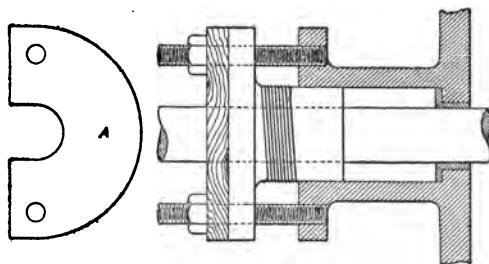
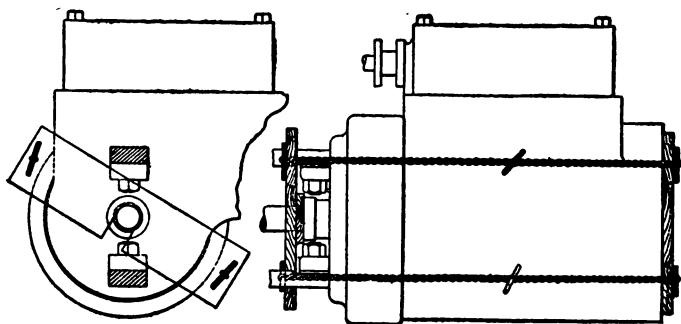

FIG. 8.—REPAIRS TO A BROKEN PACKING BOX GLAND.
FIG. 9.—CLOSING STUFFING BOX WHEN THE GLAND IS
A. If the gland breaks in two so that it is parted through the body, it is usually possible to repair it by wrapping the part outside the stuffing box with wire and then using a piece of board to push it into position with a steady pressure as shown in Fig. 8. In case a lug only is broken off, the
In case both studs are broken and the gland fractured beyond the possibility of repairing, the stuffing box can still be kept tight. Cut a piece of board like that shown at *A* in Fig. 8, and after packing the stuffing box full of waste or packing, hold this board over the opening by means of a brace or braces as shown in Fig. 9. These may be two